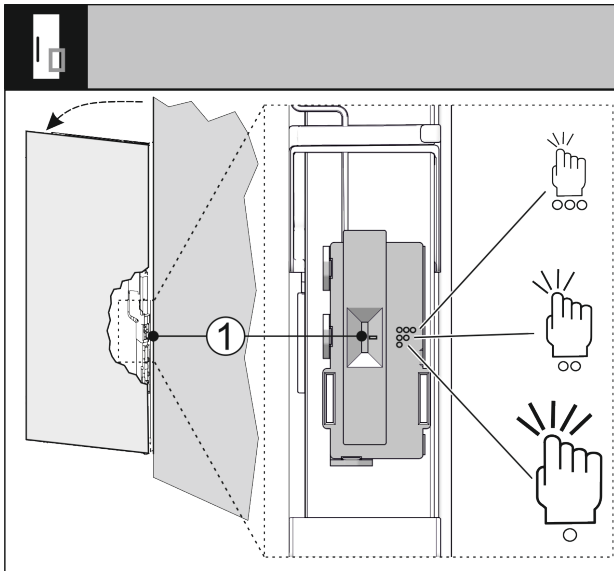

Fig. 32
You can use a switch *Fig. 32 (1)* to adjust the sensitivity of the knocking sensor. The switch is on the bottom third of the door on the hinge side.
- ▶ Move the switch Fig. 32 (1) to the required switch position.